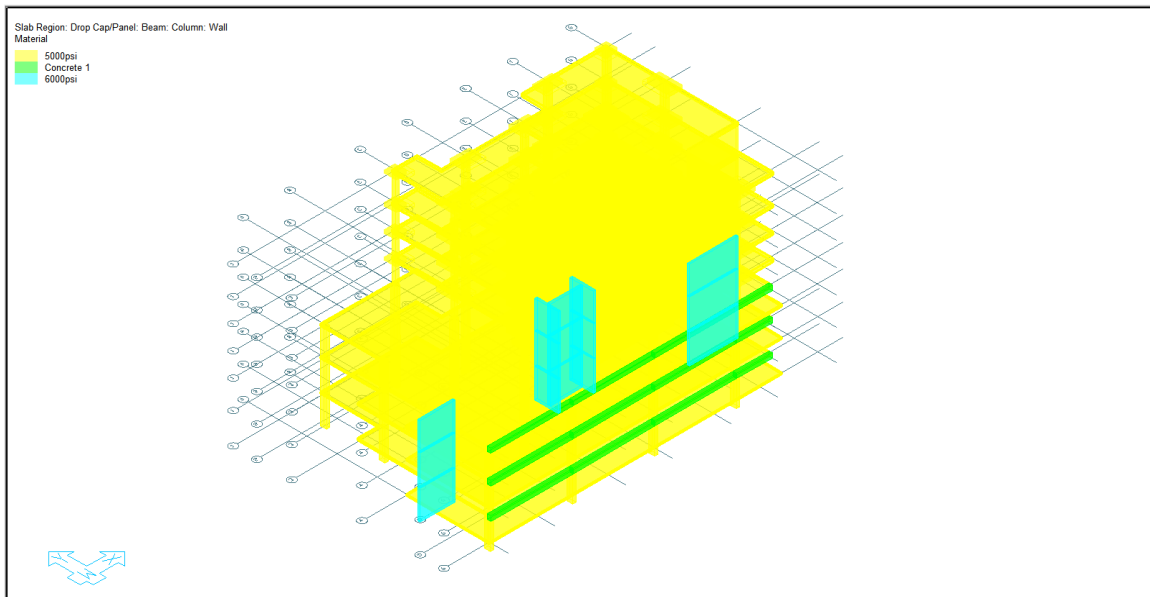

FIGURE 7-3
- Displayed on screen we can see the components colorized by Material as shown in **FIGURE 7-3**.